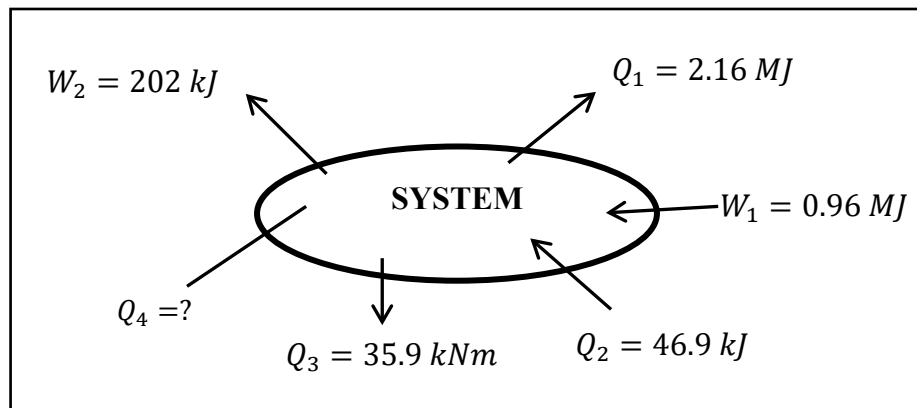

Figure 2 (b) / Rajah 2 (b)
- CLO2 (b) Figure 2 (b) shows the interactions of energy in a system. Calculate: